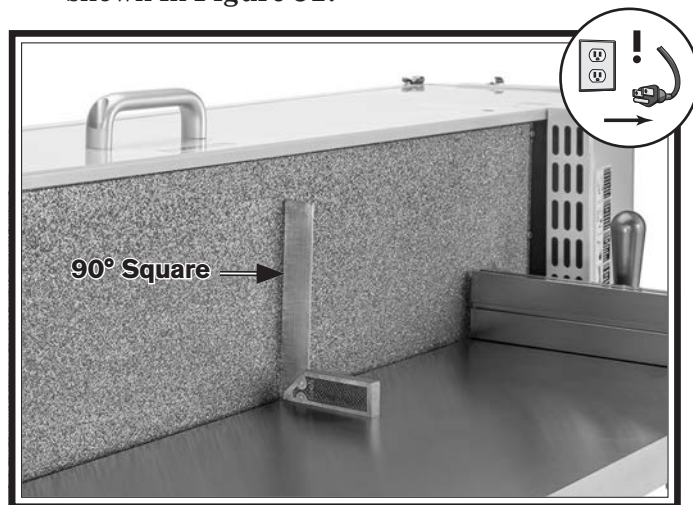

Figure 51. Checking platen with 90° square.
5. Place 90° square against table and platen, as shown in **Figure 51**.